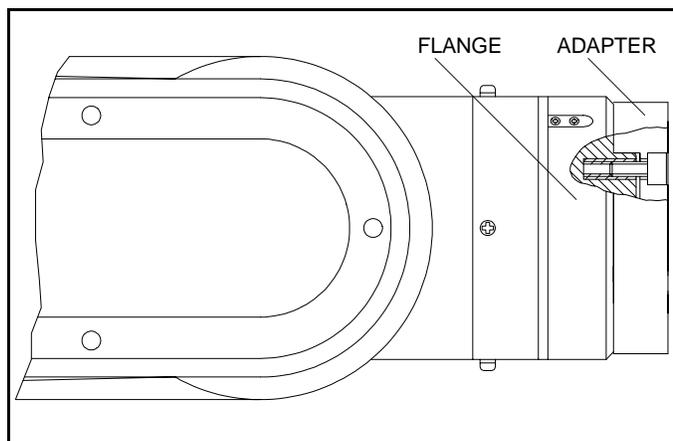

Figure 4-3: Attaching Gripper Adapter Plate to Flange
4. Using four M5x10 socket screws and a 4mm Allen key (hex wrench), attach the gripper adapter plate to the flange at the end of the robot arm, as shown in Figure 4-3.
5. Using four M5x10 socket screws and a 4mm Allen key (hex wrench), attach the gripper adapter plate to the flange at the end of the robot arm, as shown in Figure 4-3.